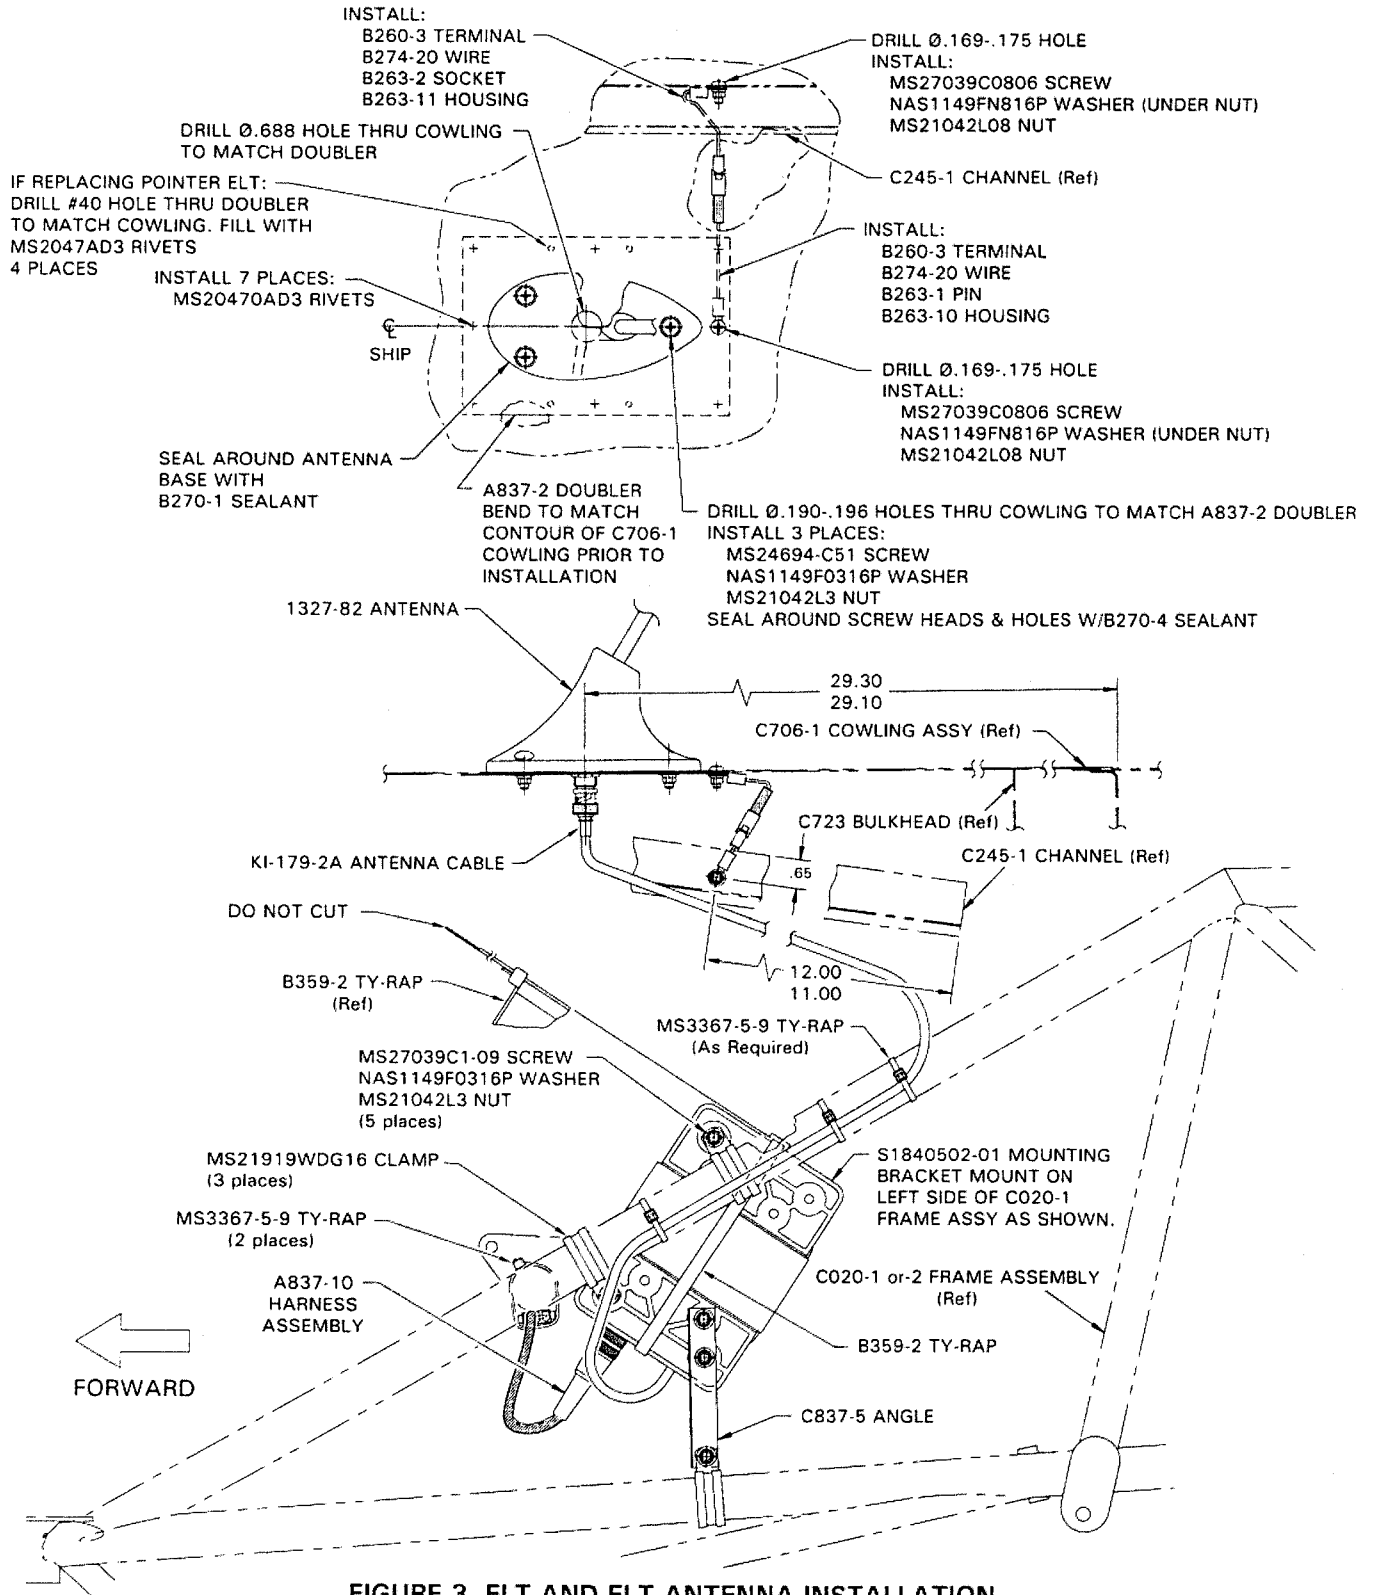

FIGURE 3 ELT AND ELT ANTENNA INSTALLATION
7. Install S1840502-01 ELT mounting bracket using C837-5 angle, clamps, and hardware per Figure 3.
13. Reference Figure 3. Position A837-2 doubler on C706-1 tailcone cowling interior and bend doubler to match cowling contour. Drill thru doubler's pilot holes with #40 drill and secure doubler to cowling with a sheet fastener as each hole is drilled. For cowling having rivet holes from a previously installed ELT antenna, align doubler's forward pilot holes with existing holes in cowling, secure with sheet fasteners, and additionally match drill A837-2 doubler thru non-aligning holes in cowling. Using doubler as a template, match drill center 0.688-inch diameter hole and three surrounding 0.190-inch diameter holes in C706-1 cowling. Remove doubler and deburr cowling and doubler. Attach doubler to cowling using 7, or 11, MS20470AD3-4 rivets. Fabricate and install antenna doubler-to-airframe ground wire using supplied B274-20 wire, connectors, and hardware, or re-use similar wire from previous ELT antenna installation.
14. Install 1327-82 antenna in the 0.688-inch diameter hole per Figure 3. Seal around base with B270-1 sealant. Seal over screw heads and holes with B270-4 sealant. Install tailcone cowling.
15. Reference Figure 3. Connect KI-179-2A antenna cable to antenna, route cable to ELT mounting bracket, and secure cable to frame with ty-raps. Connect antenna doubler ground wire and secure wire with ty-raps as required.